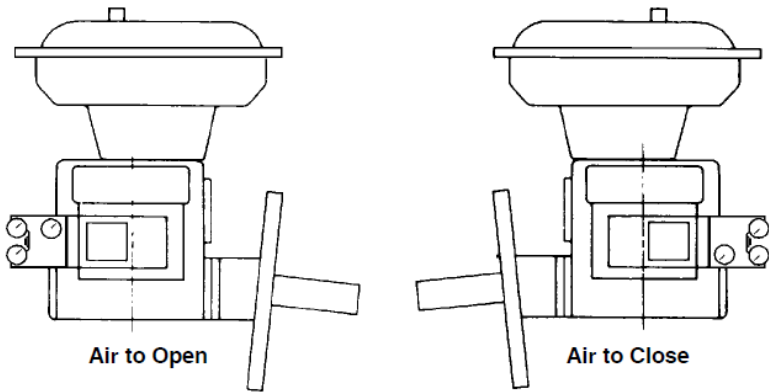
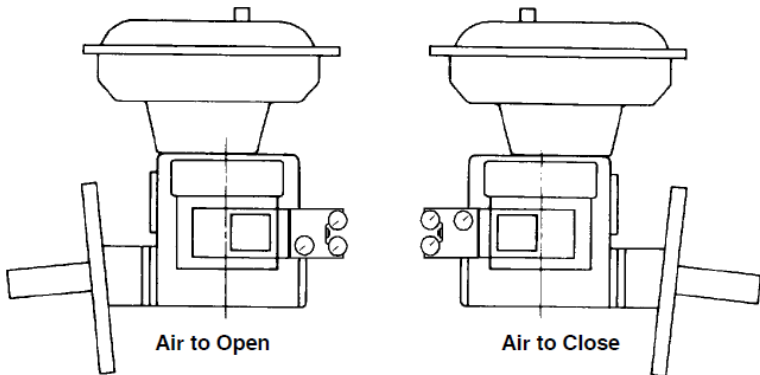

Figure 8 - MiniTork II
Figure 9 - 39000 Series High Performance Butterfly Valve
The positioner is mounted to an intermediate plate (171) by two screws (29) and lockwashers (30) with the gauges nearest the actuator on Camflex (Figure 7) and with gauges away from actuator on MiniTork II (Figure 8), and HPBV 39004 (Figure 9). The intermediate mounting plate (171) is held by two flat-head screws (172) to the bracket.